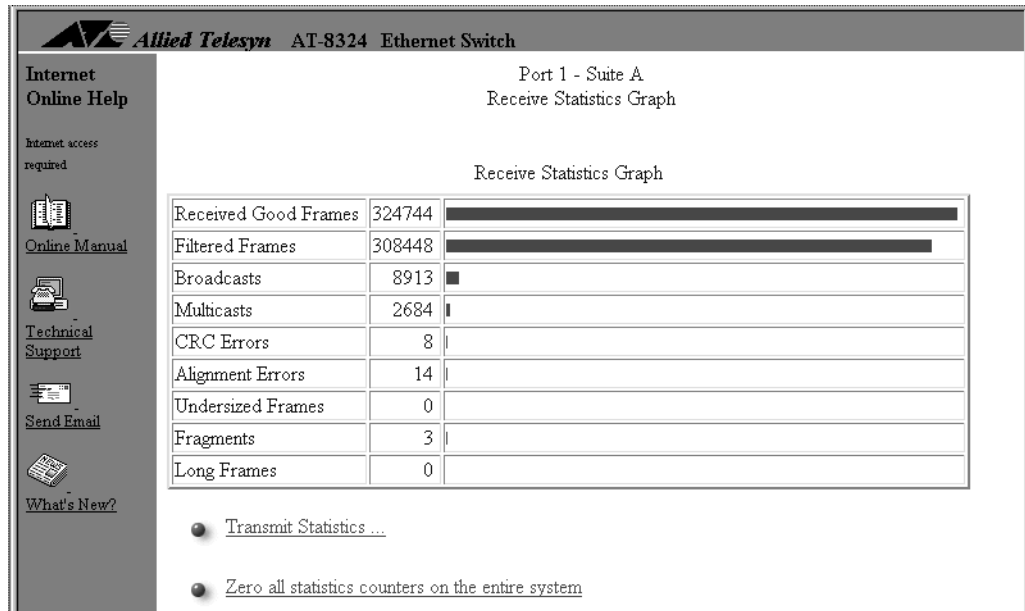

Figure 55 Graph of a Port's Received Frames
- a. Select *Individual port overview* and then a port. The frames statistics for the selected port are displayed. Figure 55 is an example of the window.